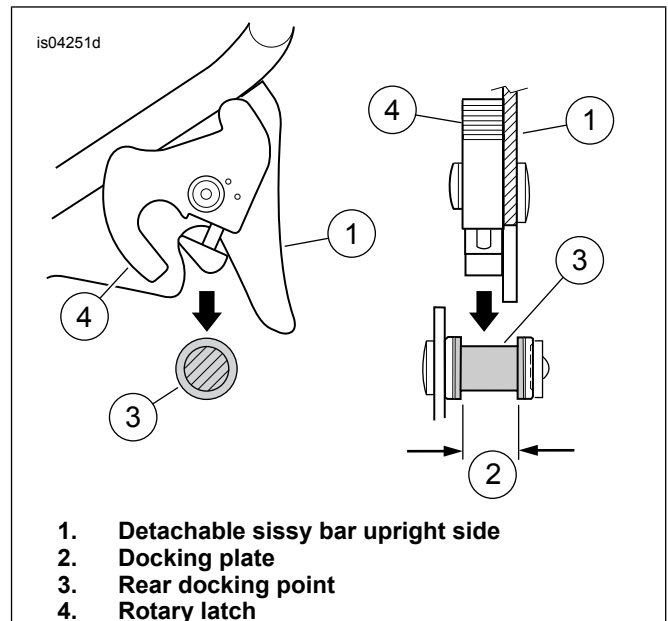
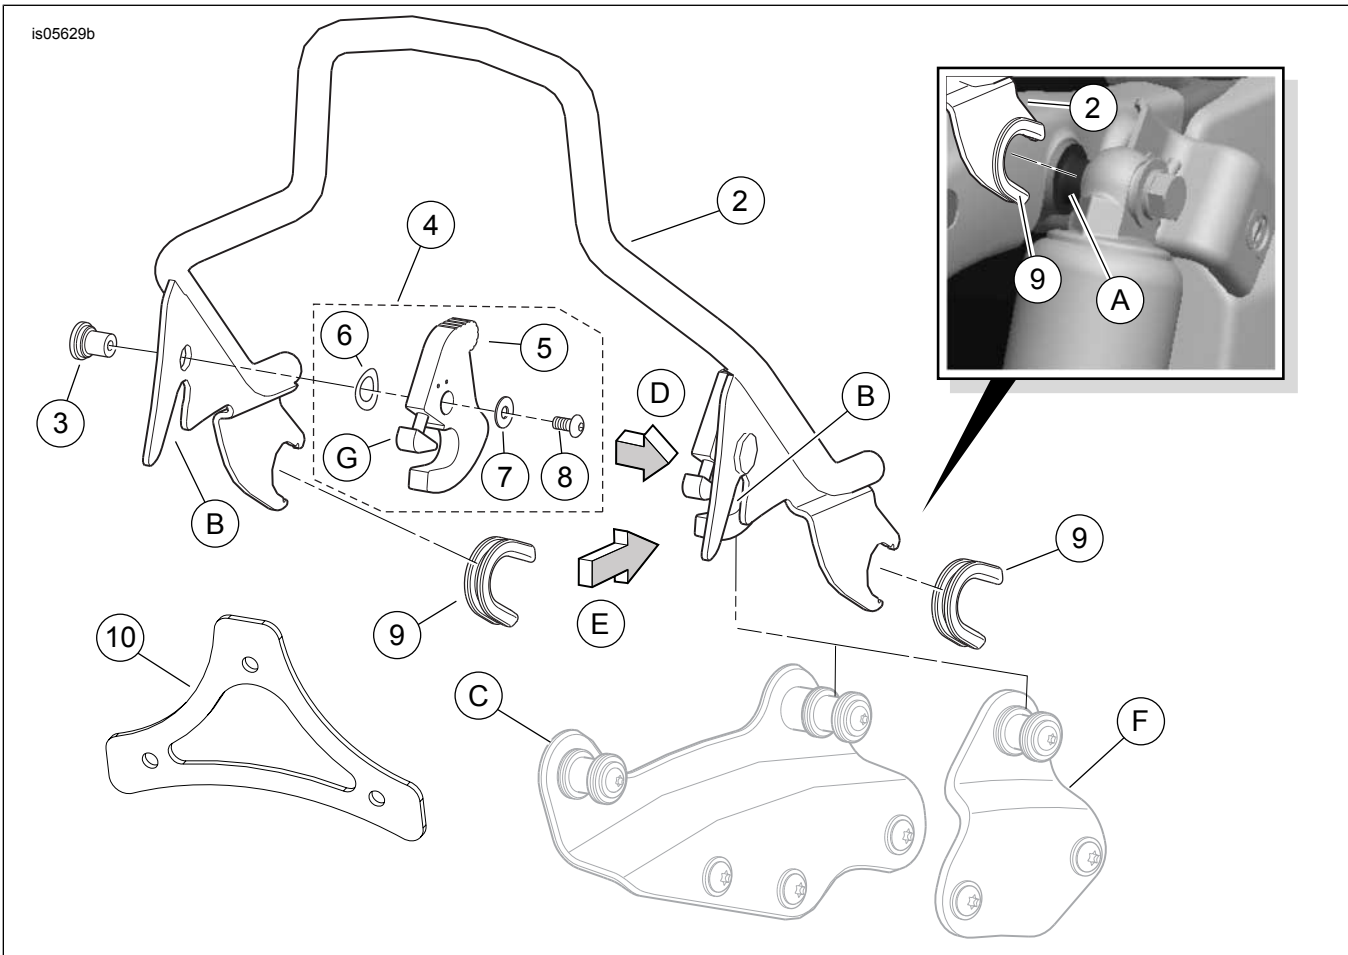

Figure 1. Proper Alignment of Latch in Rear Docking Point, Views in Direction of Arrows (D) and (E)
Figure 3. Service Parts: H-D Detachables Touring Sissy Bar Uprights
See Figure 3 and Table 1.
2. See Figure 3. Stand behind the motorcycle. Place the left side and right side front upright notches (with bushings in place) onto the docking points (A) inboard of the upper shock absorber mounts. Make sure the notch bushings (9) seat fully into the shock absorber docking points.
3. See Figure 3, arrows (D) and (E), and Figure 1. Position the rotary latches (4) over the rear docking points (3). Verify the upright sides (1) and latches fit into the neck of the rear docking points as shown. This may require some gentle squeezing or spreading of the sissy bar upright sides.
**\* After installing the sissy bar upright, verify the sissy bar is secure. The front and rear docking points must be fully engaged. See Figure 1 for correct engagement.**
5. To remove the sissy bar upright, press the release button (G) on each side. Pull the latch levers back. Carefully lift the rear of the sissy bar up. Pull the upright out of the front docking points.
D	To right side of vehicle (view direction for Figure 1)
E	To front of vehicle (view direction for Figure 1)